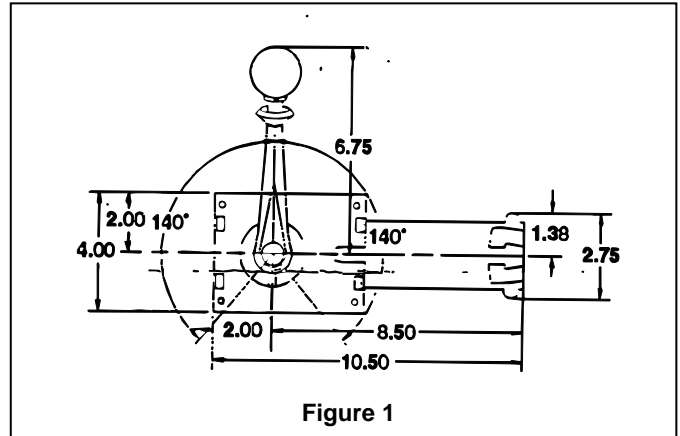

Figure 1
1. Select a location for the control ensuring that the handle does not interfere with dashboard, steering wheel, seat, switches, or other equipment at any point in its travel. NOTE: THICKNESS OF MOUNTING SURFACE MUST NOT BE GREATER THAN 1/2". Also ensure that the shift cable will have at least 36 inches of unrestricted space for movement (see INSTALLATION OF SHIFT CABLE). Refer to Figure 1 for dimensions and clearances. NOTE: CONTROL CAN BE MOUNTED HORIZONTALLY OR VERTICALLY TO FACILITATE CABLE CLEARANCE.